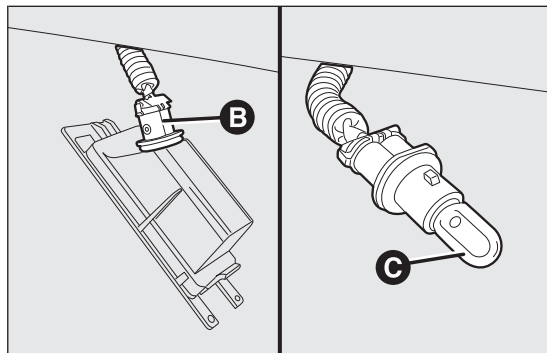

fig. 147
- turn the bulb holder B fig. 147 anticlockwise and then remove the bulb C.